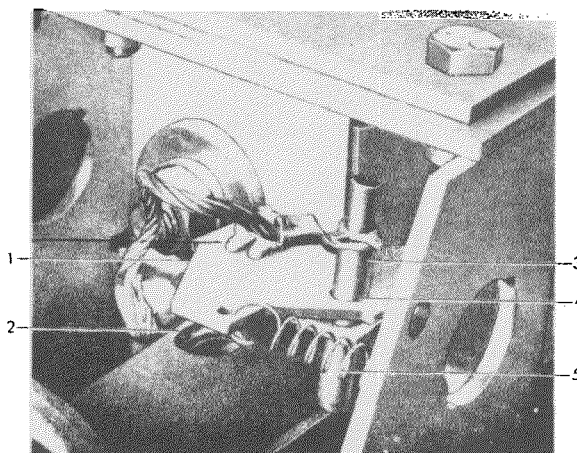
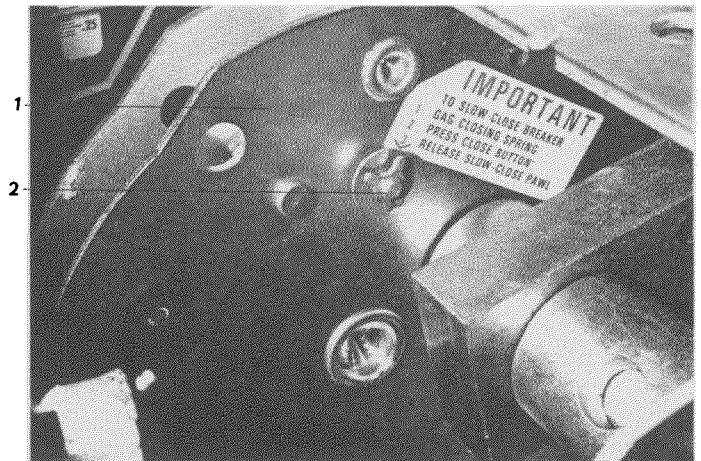

Fig. 10 Closing Spring Gag Interlock
Fig. 11 Slow Close Pin On Flywheel
The closing spring gag interlock is provided on the breaker to prevent a breaker that has a gagged closing spring from entering the metalclad unit. This is accomplished by projecting a lever, (1) Fig. 10, out of the left side of the mechanism when the closing spring is gagged.
- (2) Insert the close spring blocking pin, (3) Fig. 10, by carefully removing it from its storage hole, rotating the interlock lever and inserting it in the blocking hole.
- (3) **CAUTION:** If the manual close button is not pressed prior to performing step 4, the breaker will be damaged. **PRESS THE MANUAL CLOSE BUTTON TO PARTIALLY DISCHARGE THE CLOSING SPRING AGAINST THE BLOCKING PIN.**
- (4) Pull the slow close pin on the flywheel, (2) Fig. 11, and resume ratchet wrench operation of the manual wind shaft. After several rotations at no apparent load, the winding mechanism will engage the slow close pawl and begin the closing operation of the mechanism.